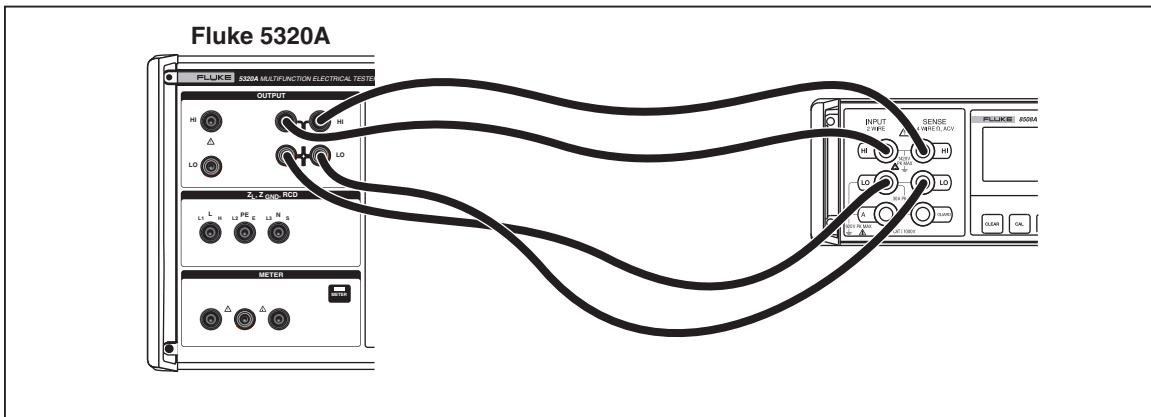

Figure 3-25. Low Resistance Calibration Connections
1. Connect the low resistance source output to a standard multimeter as shown in Figure 3-25. Use a 4-wire connection and setup the multimeter for a 4-wire ohms measurement.